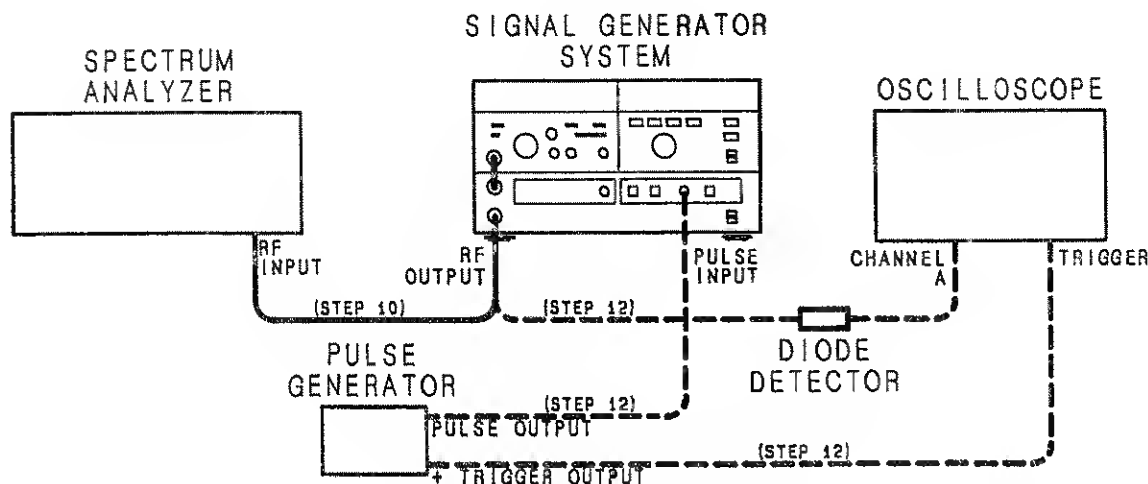

Figure 4-2. Pulse Modulation Test Setup
10. Set the Signal Generator System to 1 GHz at 0 dBm (with 0 dB on vernier). Attach spectrum analyzer to the FEU in place of the power meter. See Figure 4-2. Tune in the signal and set it to the top graticule line on the spectrum analyzer. Adjust spectrum analyzer bandwidth to get a noise floor on the spectrum analyzer at least 70 dB below the signal level. Use 20 dB of input attenuation on the spectrum analyzer.
12. Attach diode detector to the FEU's .01 TO 18.0 GHz OUTPUT connector. Attach output of the detector to oscilloscope Channel A input. Set oscilloscope impedance on Channel A to 50 ohms. Connect pulse generator output to the FEU PULSE INPUT. Connect pulse generator trigger output to oscilloscope trigger input and set oscilloscope for external trigger. Use a sweep speed of 20 ns per division on the oscilloscope. See Figure 4-2.